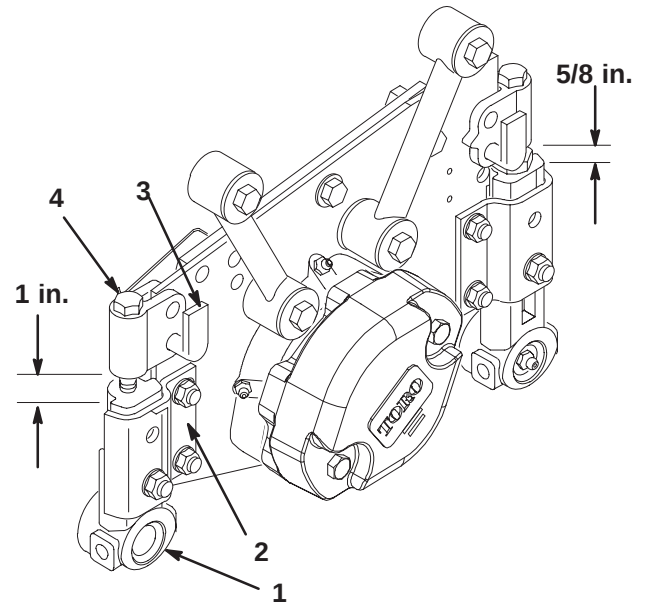

Figure 8
- Adjust support capscrew to achieve 1 in. $\pm$ 1/16 (25mm $\pm$ 1.5mm) dimension between height-of-cut support and front roller bracket (2 places) (Fig. 8).
- Adjust support capscrew to achieve 5/8 in. $\pm$ 1/16 (16mm $\pm$ 1.5mm) dimension between height-of-cut support and rear roller bracket (2 places) (Fig. 8).